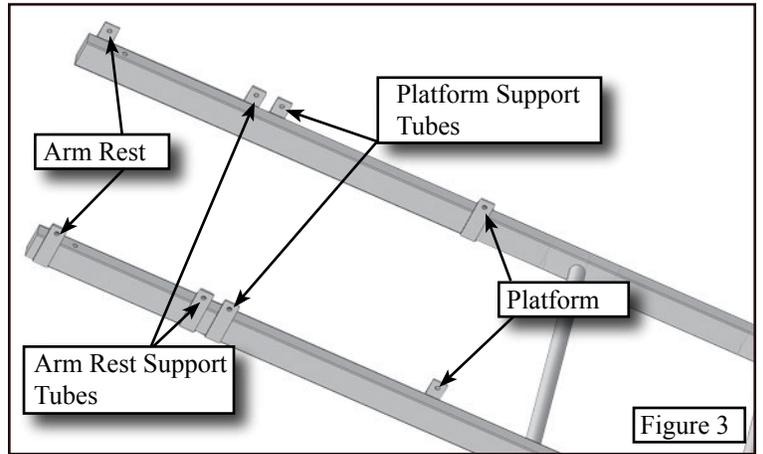
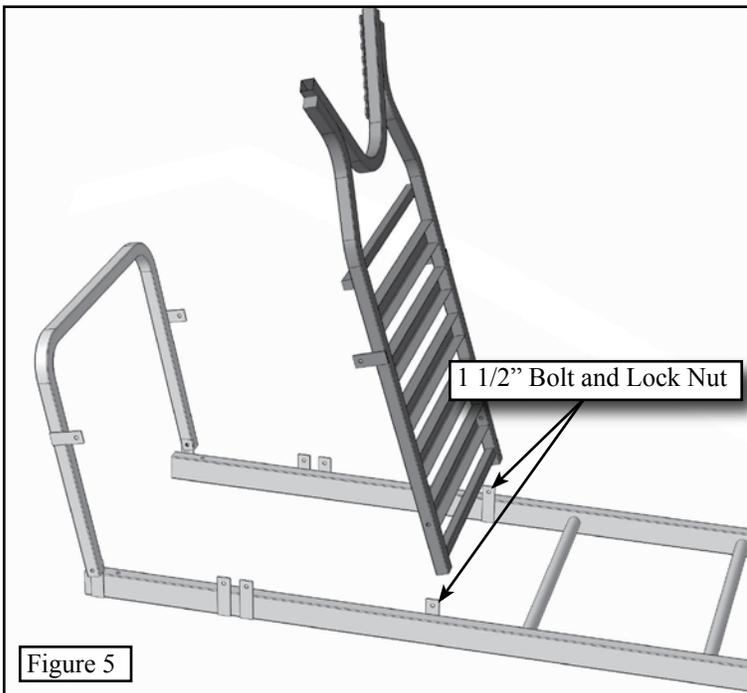

Figure 3
Figure 5
**Step 1.** Lay the top column assembly down as shown in **Figure 3**. Note that the welded on brackets are facing up and the rungs are located to the right.
**Step 3.** Bolt the platform assembly to the top column assembly. Use the two holes drilled into the end of the platform tubing. You will use the middle set of brackets on the top column assembly as shown in **Figure 3 and Figure 5**. Note the orientation of the platform. The welded on brackets will face toward the arm rest assembly bar and smooth part of the rungs will face up. Use two 1 1/2" bolts with lock nuts per side to secure.